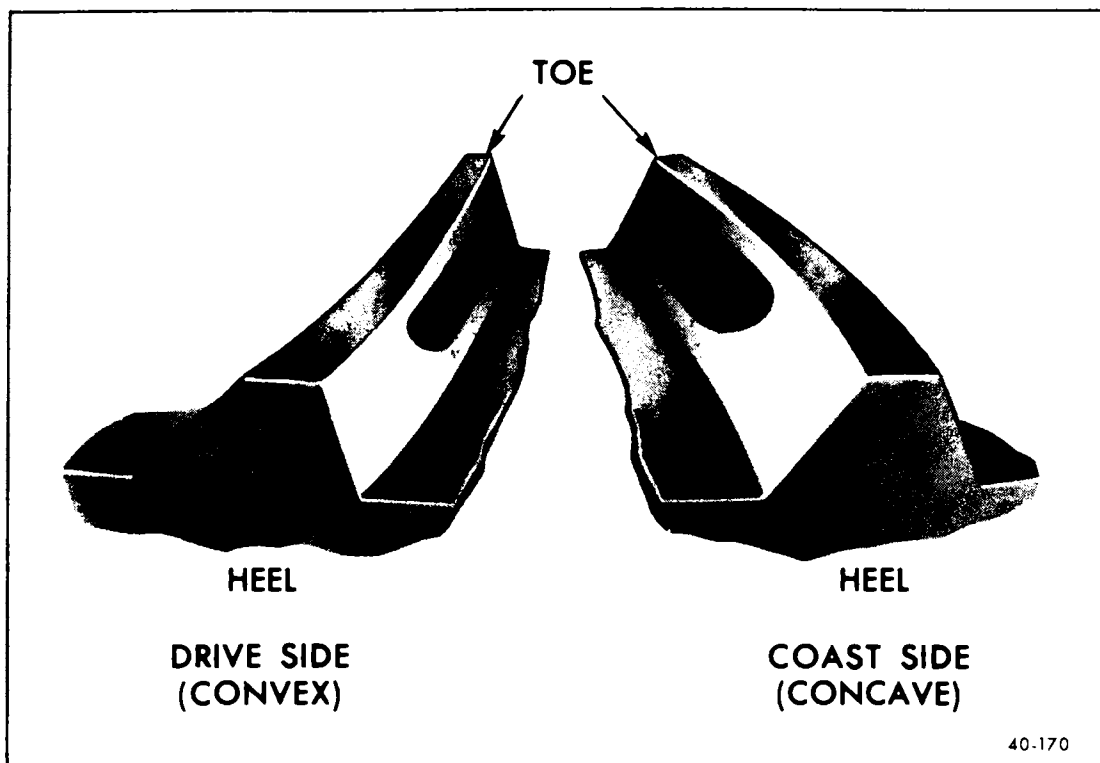

Figure 40-173—Gear Tooth Nomenclature
5. Observe pattern on ring gear teeth and compare with Figures 40-173 and 174.